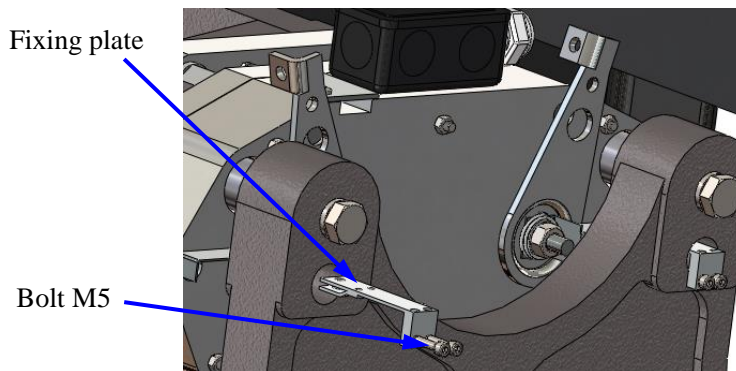

Figure 24: Fixing plate removal
1. Loosen the bolt M5 by hex wrench 4mm, remove the fixing plate. (Let's take the right side brake for example shown in the following figure). See Figure 24.